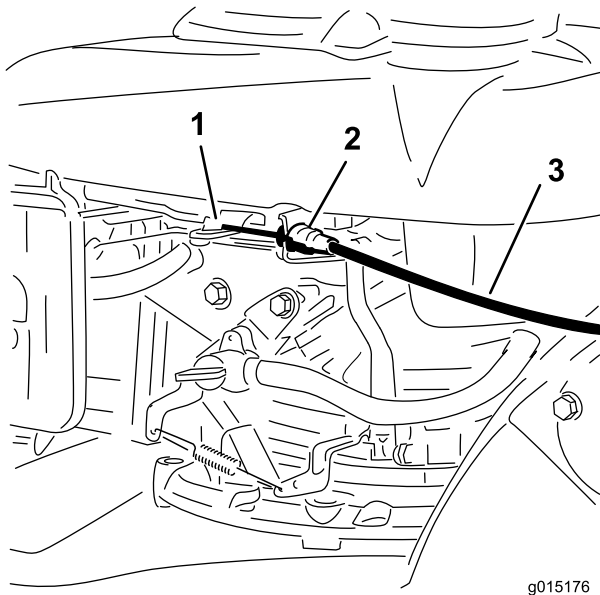

Figure 6
3. Route the blade-brake cable down the inside of the handle and attach the cable end (Figure 6).